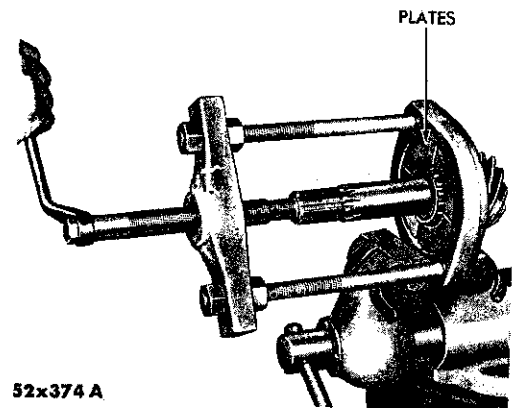

Fig. 11—Removing Bearing from Pinion Shaft
(1) When removing the pinion rear bearing (Fig. 11) on a Chrysler Newport carrier use Tool C-293 and four (4) No. 36 adaptors. On all other Chrysler and Imperial models, use Tool C-293 and four (4) No. 37 adaptors.
(2) The pinion bearing cups can be removed from the carrier with a blunt brass drift and hammer.